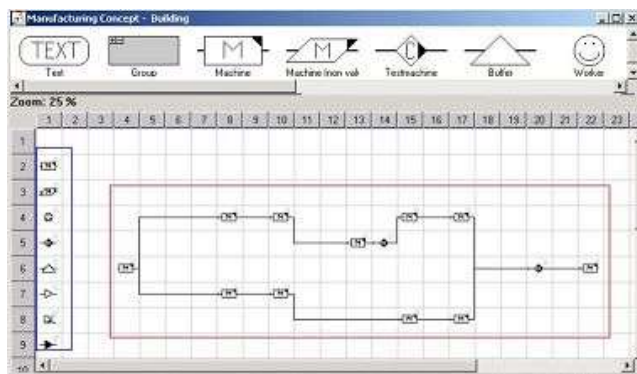

Figure 10: Example – Display of a new Manufacturing Concept
- 6) Click **OK**, once you have established all required relationships between the different plantypes. The new Manufacturing Concept is created and displayed. *Please refer to the Figure 10.*
The resources displayed in the example of a Manufacturing Concept come from the resource structure and from the Process Graph. The resources from the resource structure are arranged within the blue framed rectangle. The resources from the Process Graph correspond to the selected Process Graph display. The connection between the plantypes from the Process Graph and from the Manufacturing Concept establishes a connection between the processes created in the Process Graph and the resources. The Manufacturing Concept is exclusively intended for editing resources. *Please refer to the Figure 10.*